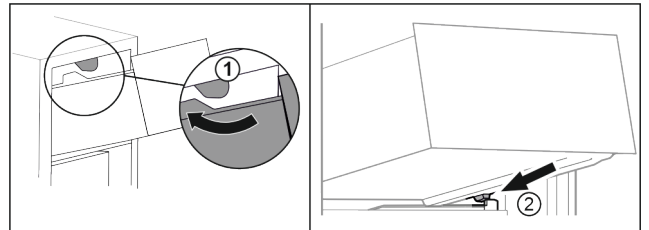

Fig. 61
- ▶ Guide drawer around the upper stoppers. Fig. 61 (1)
- ▶ Place drawer at an angle behind the lower stoppers onto moulded rib. Fig. 61 (2)